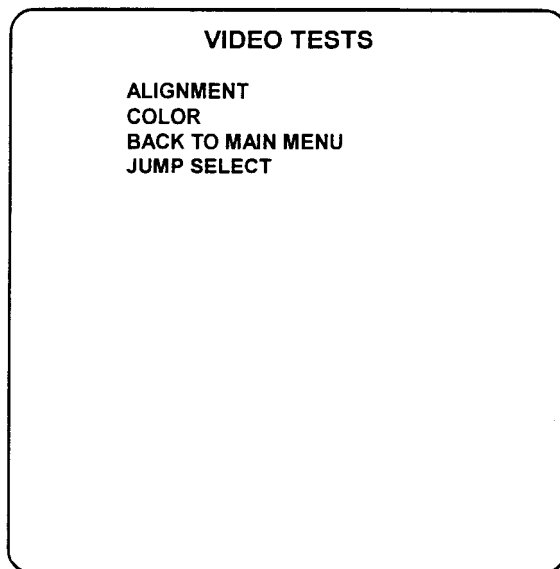

**Figure 4: CONTROLS TEST SCREEN**
**6.3 CONTROLS TEST (FIGURE 4)**